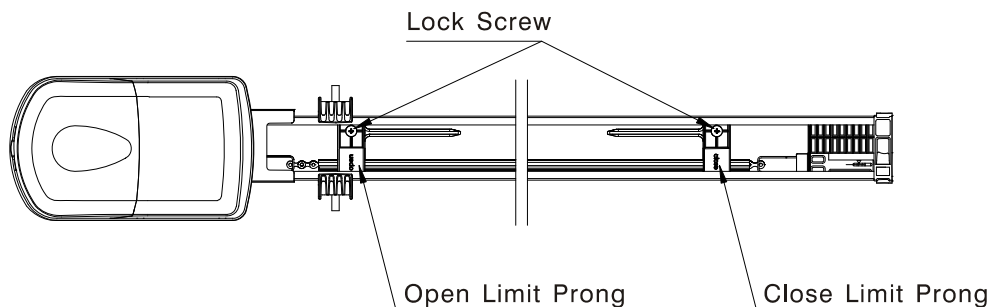

Fig. 11
- Locate the Close Direction Limit Prong within the Drive Rail - nearest to front wall of garage (Fig.11)
- Locate the Open Direction Limit Prong within the Drive Rail – nearest to Control Box. (Fig.11)